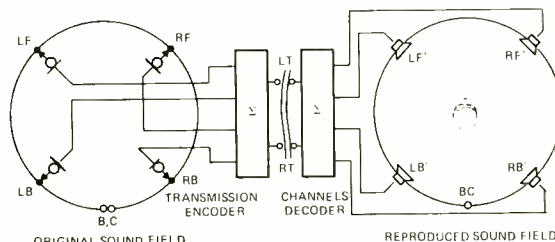

FIG. 2—TRANSMISSION of sound signals by a matrix 4-channel system requires an encoder and decoder.
To elaborate on this point, let's consider a sound field to be a circle and divide it into four equal parts. We now designate the four points dividing the circle (see Fig. 2) as LF (which can be reproduced by a signal of $L = 1$, $R = 0.414$), RF ($L = 0.414$, $R = 1$), LB ($L = 1$, $R = -0.414$) and RB ($L = -0.414$, $R = 1$). This will certainly mean that a front signal is distributed to LT and RT in phase, and that a rear signal is distributed to LT and RT in reverse-phase. However, it also means that if there is a sound source at the rear center (CB), i.e., if signals of identical levels enter LB and RB simultaneously, $LT = 1 - 0.414 = 0.586$ and $RT = 1 - 0.414 = 0.586$, so that the LT and RT signals find themselves in phase, allowing a sound image to be located at the front center (CF) instead of the rear center (CB).
The reason for this is that this technique takes the fact that stereo reproduction uses in-phase signals to create a line of sound images between the L and R speakers, then simply adds reverse-phase signals to stretch that line outside of the two speakers, letting four speakers connected by this stretched line form a circle. The junction points of this line (points B and C in Fig. 2) do not yet meet each other completely, so that the circle is not yet perfect. This is the reason for the undesirable phenomenon described above. In other words, only the information existing over the three-quarters of the circle, excluding the portion between LB and RB, can be transmitted under this condition.
The phase shift as described above will allow the points B and C of Fig. 2 to join each other completely, providing a CB signal and creating a continuous circle.
More specifically, assuming a playback set-up (right hand side of Fig. 2) where four speakers are placed to form a square, the QS decoder reproduces the four speaker positions by adding or subtracting